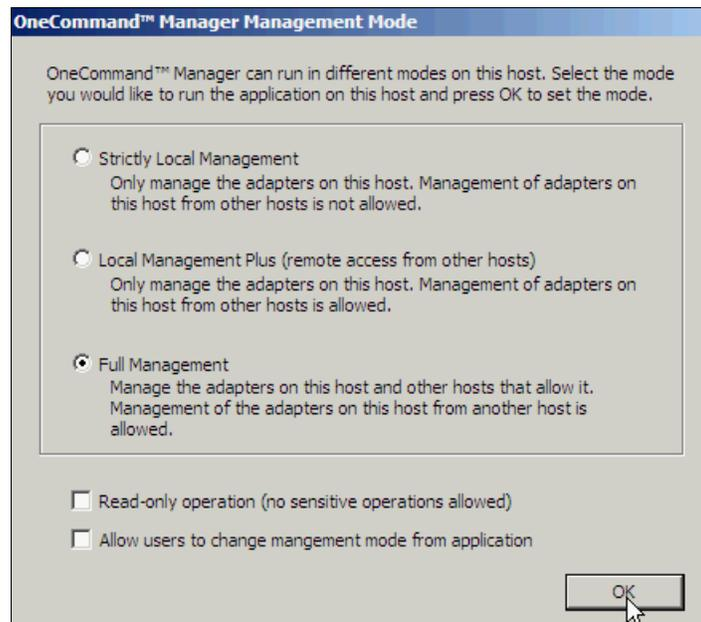

Figure 10-127 OneCommand Manager
4. When prompted, select one of the following modes operations (see Figure 10-127):